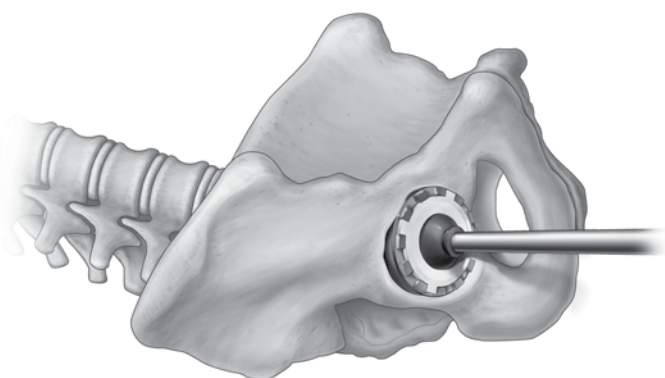

Figure 11
Step 3: Assemble the appropriate diameter **Novation Liner Driver Head** on the end of the **Liner Driver Handle**. With a mallet, strike the driving platform of the Liner Driver with one sharp blow (*Figure 11*). Once seated, the top surface of the liner will rest slightly above the level of the Acetabular Shell crowns and be a uniform height around the circumference of the implant construct.